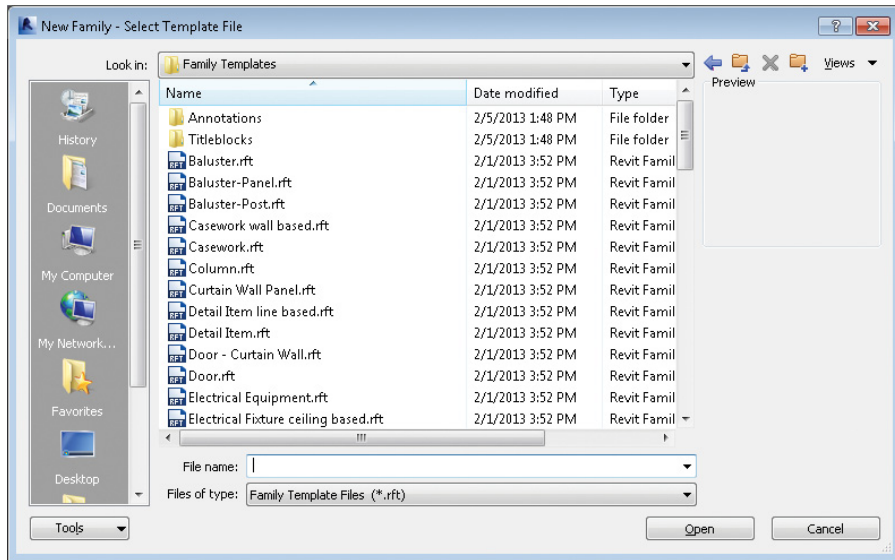

FIGURE 5.2 Selecting a family template
1. From the Application button, click New ➤ Family. The New Family – Select Template File dialog box opens (Figure 5.2).